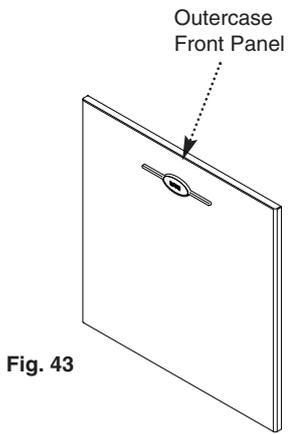

Fig. 43
5. Pull the upper corners of the outercase front panel forwards. Draw the panel upwards to disengage it from the locating lugs (Fig. 43).